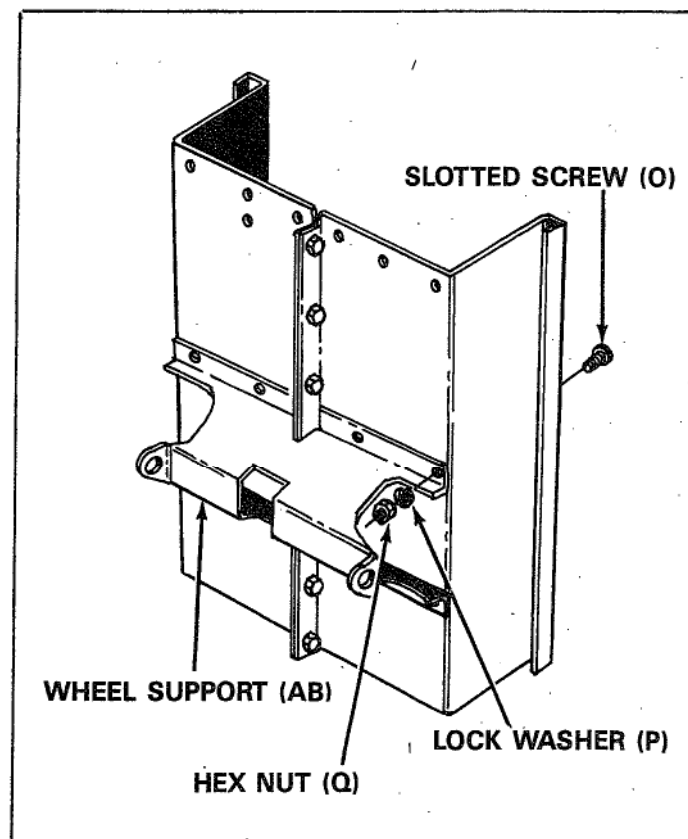

FIGURE 4
5. Position the wheel support (AB) in place on the bottom of cart. See figure 4.
6. Assemble wheel support to cart with eight slotted head screws (O), lock washers (P) and hex nuts (Q). See figure 4. Heads of screws go to the inside of cart and should be tightened at this time.